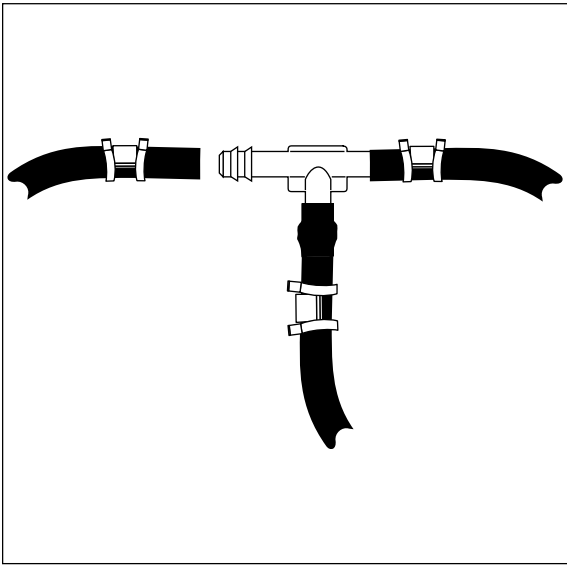

Figure 3
- d. Push the air line over one side of the tee until all the barbs are covered. Repeat procedure for other leg of tee (Figure 3).
- e. With pliers slide the air line clamp forward until it fully covers the barbed section. Repeat for other leg of tee (Figure 3).